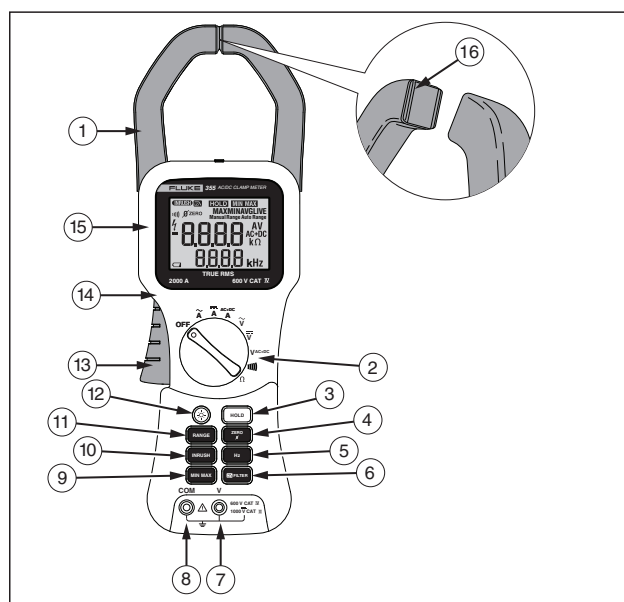

Figure 1. Feature Locations (355 shown)
- Do not hold the Meter anywhere beyond the tactile barrier. See Figure 1.
- When measuring current, center the conductor in the clamp. See Figure 1.
- Do not use the Meter if the wear indicator in the jaw opening is not visible. See Figure 1.
See Figure 1 and Tables 2 and 3 for a list of features.